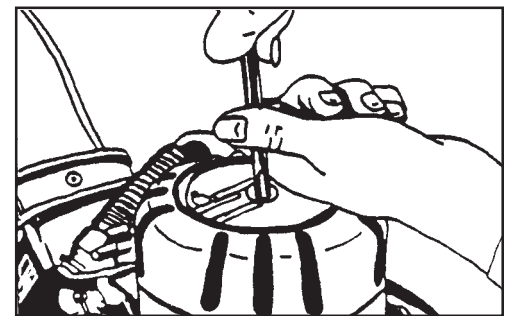

Figure 11
1. Remove the motor cover. See figure 11.